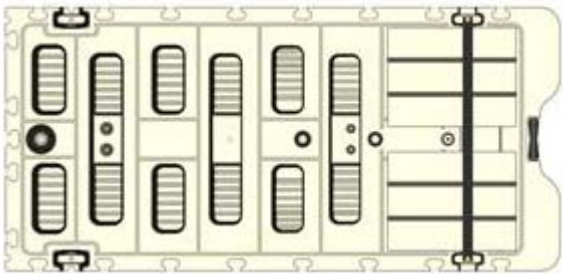
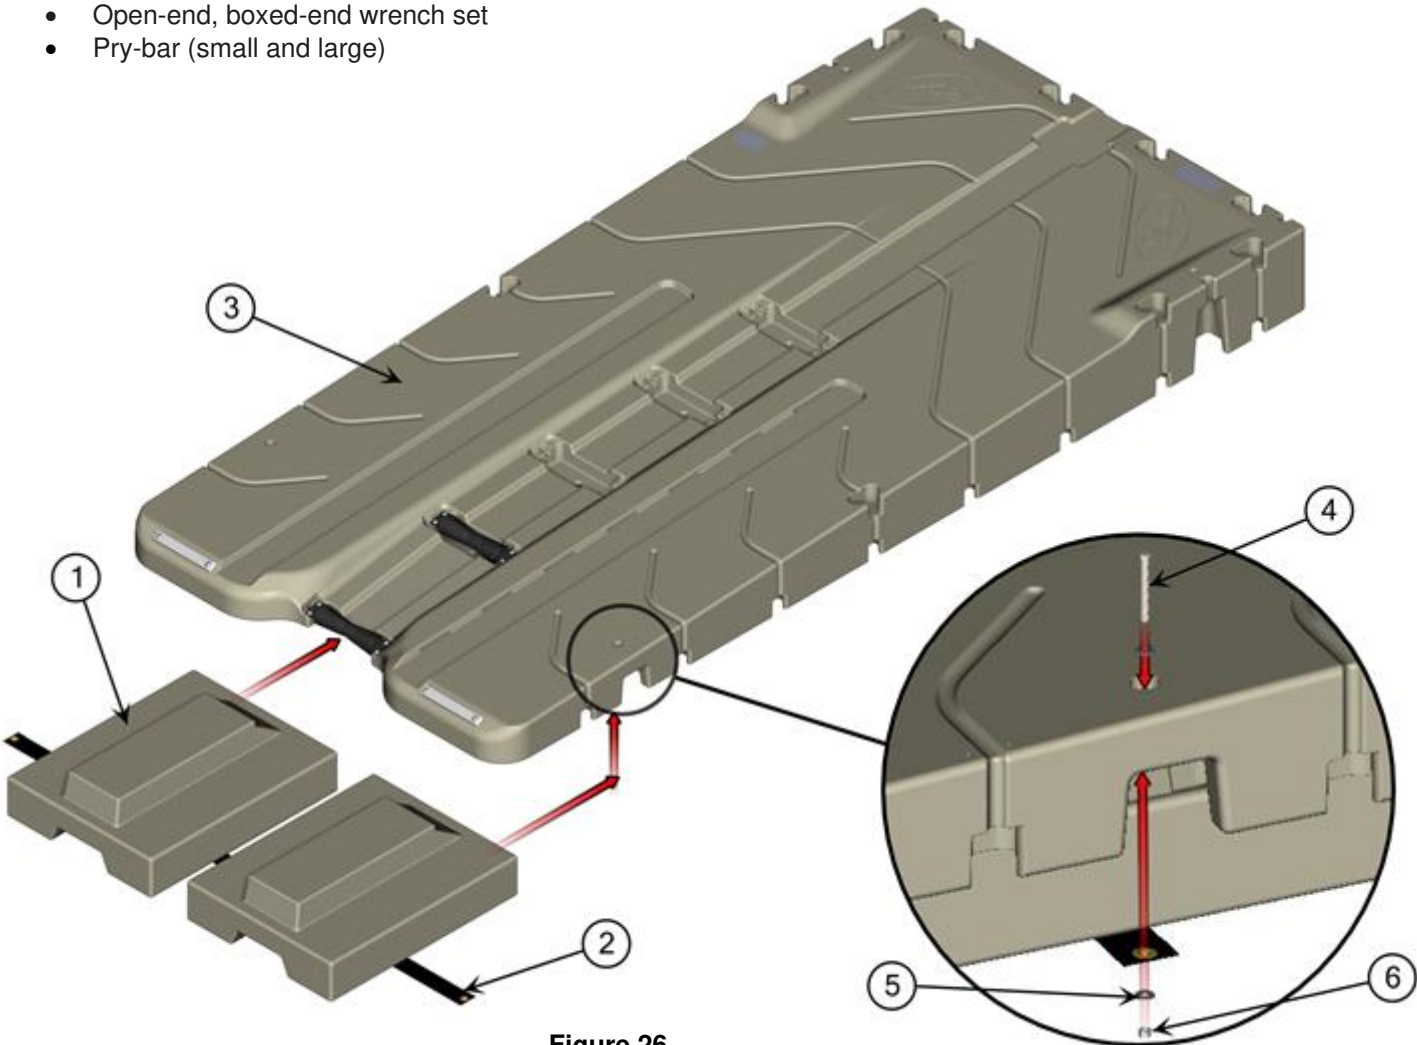

Figure 25.
Figure 26.
- 1. Once the EZ BoatPort (Item 3) is installed at its desired location, place the supplemental floats (Item 1) under the port into rear pylons (Figure 25). This can be done by submerging the supplemental floats and pushing them under at the entry of the EZ BoatPort (Figure 26). **NOTE:** Two people may be needed due to the buoyancy of the supplemental floats.
- 2. Secure supplemental floats with the strap (Item 2) and two (2) washers (Item 5), one (1) bolt (Item 4) and one (1) nut (Item 6) on each side through the hand hold area thru-holes (Detail A).